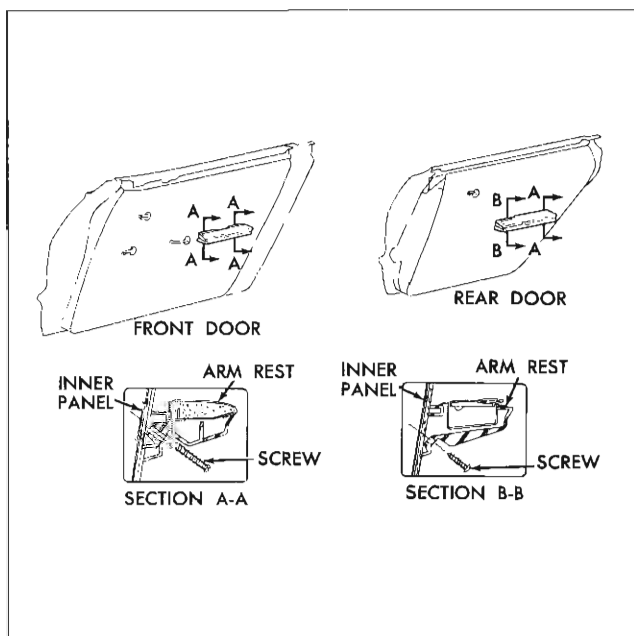

Fig. 3-17 Door Arm Rests
1. Remove screws securing arm rest to door inner panel and remove arm rest from door (Fig. 3-17).
1. For in or out and up or down adjustments, loosen hinge to door pillar attaching bolts (Fig. 3-17). Adjust door as required and tighten bolts.
2. To adjust fore or aft, loosen hinge to body pillar attaching bolts (Fig. 3-17). Adjust door as required and tighten bolts.